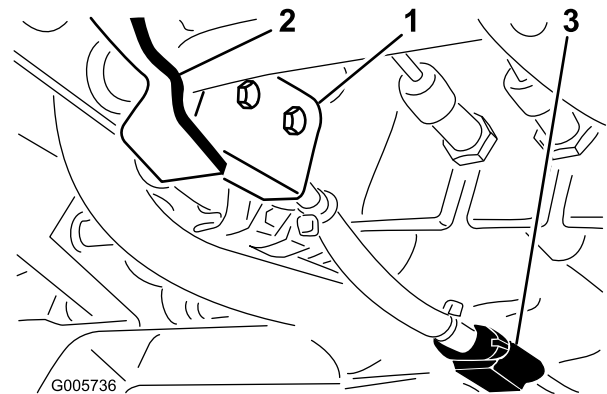

Figure 72
1. Gap between parking brake shaft pivot paddle and bottom of interlock switch (Figure 72) should be approximately 1/16” (Paddle must not contact switch).